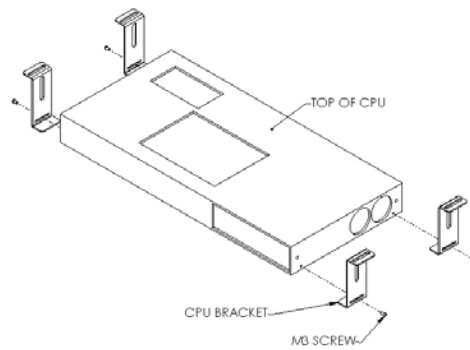

Figure 5
3. Using the M3 screw, attach all four CPU Brackets to computer (see Figure 5).